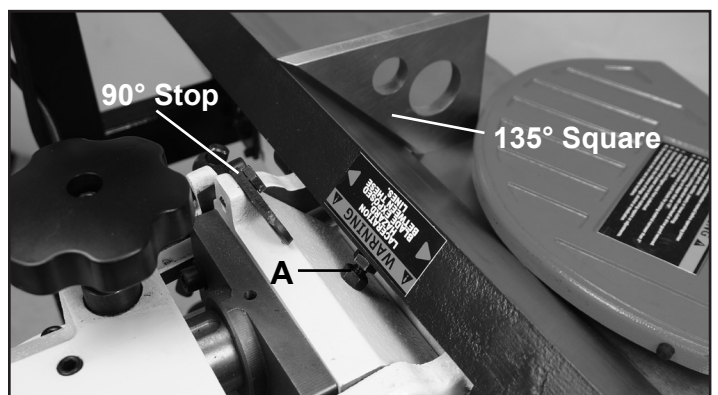

FIG. 26
6. To check the 135 degree setting flip the 90 degree stop tab away from the 90 degree stop bolt. Put a square on the table with one end against the fence and adjust the fence until it is exactly 135 degrees to the table. FIG. 26.
7. Loosen the locking nut with a 13mm hex wrench and adjust the stop bolt (A) until a 135 degree setting is reached. Tighten the locking nut to retain the adjustment. FIG. 26.